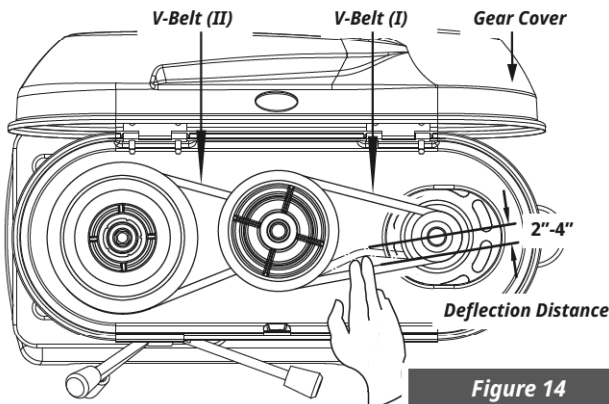

Figure 14
3. Release the clamping screw on the motor with an allen key 6 mm ( not scope of delivery)
7. Close the gear cover. ( See Figure 14 )